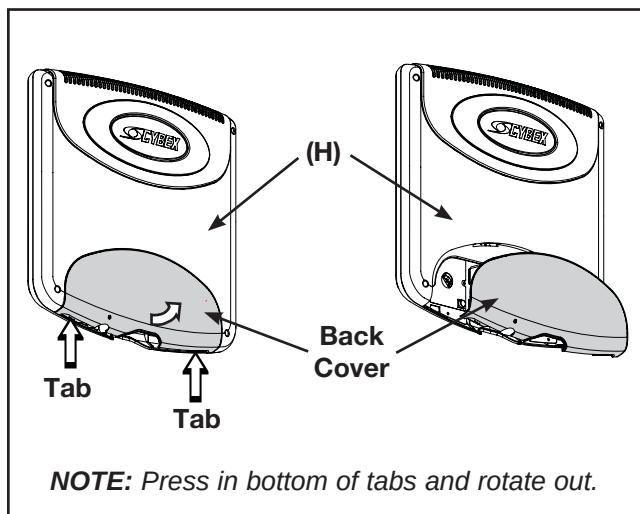

Figure 17
- A. Locate monitor (H), four mounting screws (K), four lock washers (L) and four flat washers (M).
- B. Remove the back cover from monitor (H) by pressing the bottom tabs of the cover in and rotating out. See Figure 17.